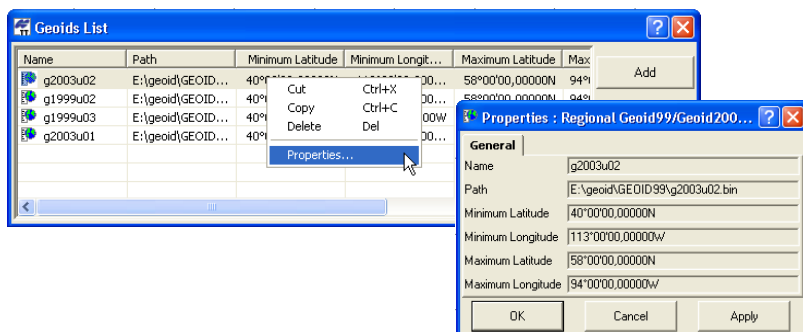

Figure 2-27. Geoids List and Properties Dialog Box
- Right-click on the **Geoids List** dialog box to display a pop-up menu, then click **Properties** to display the **Properties** dialog box (Figure 2-27).